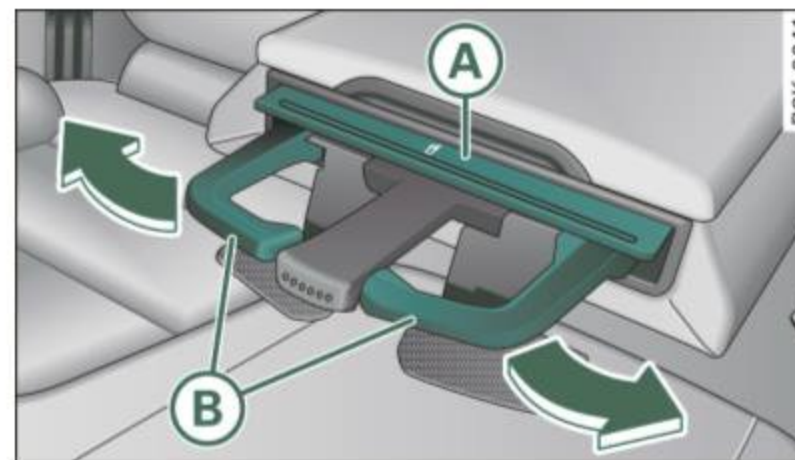

Fig. 91 Beverage storage in the rear armrest
- Press on the symbol  (A) ⇒ page 90, fig. 91.